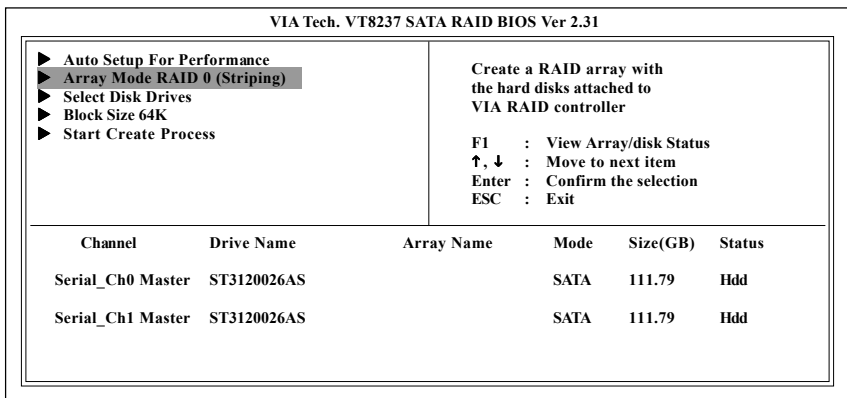

Figure 13
- 3 Select the second option "Array Mode RAID...." (Figure 13) and press <Enter>.